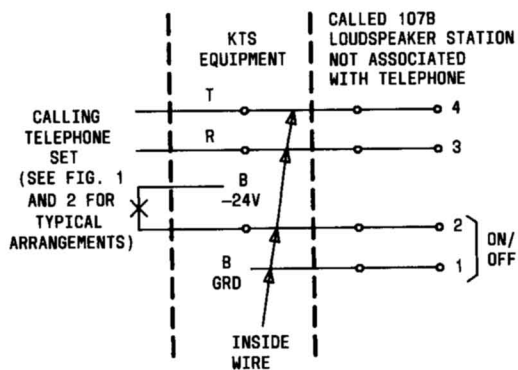

Fig. 3—Example of Standalone Voice-Signaling Arrangement
- Add new Fig. 3
3.10 Standalone Arrangement—The called station can consist of a loudspeaker alone without any associated telephone set. A generalized example of this arrangement is provided in Fig. 3.